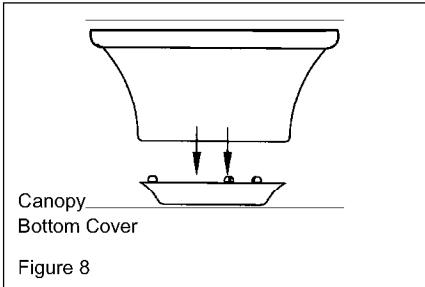

Figure 8
**Note:** For mounting angles between 20-45 degrees, please replace the canopy bottom cover installed on the bottom of the canopy opening with the extra 45-degree canopy bottom cover included. (See Figure 8)
3. Remove the decorative canopy bottom cover from the canopy by depressing the three studs (Figure 8).